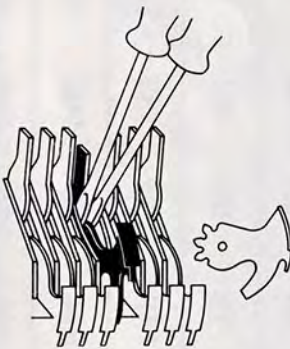

Fig. 138
2. How to replace a sinker, fig. 138